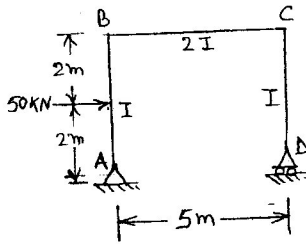

Fig. 4
4. Determine the horizontal displacement of support D of the frame shown in fig. 4 by using the principle of virtual work. The values of I are indicated along the members. $E = 200 \times 10^6 \text{ KN/mm}^2$ and $I = 300 \times 10^{-6} \text{ m}^4$.